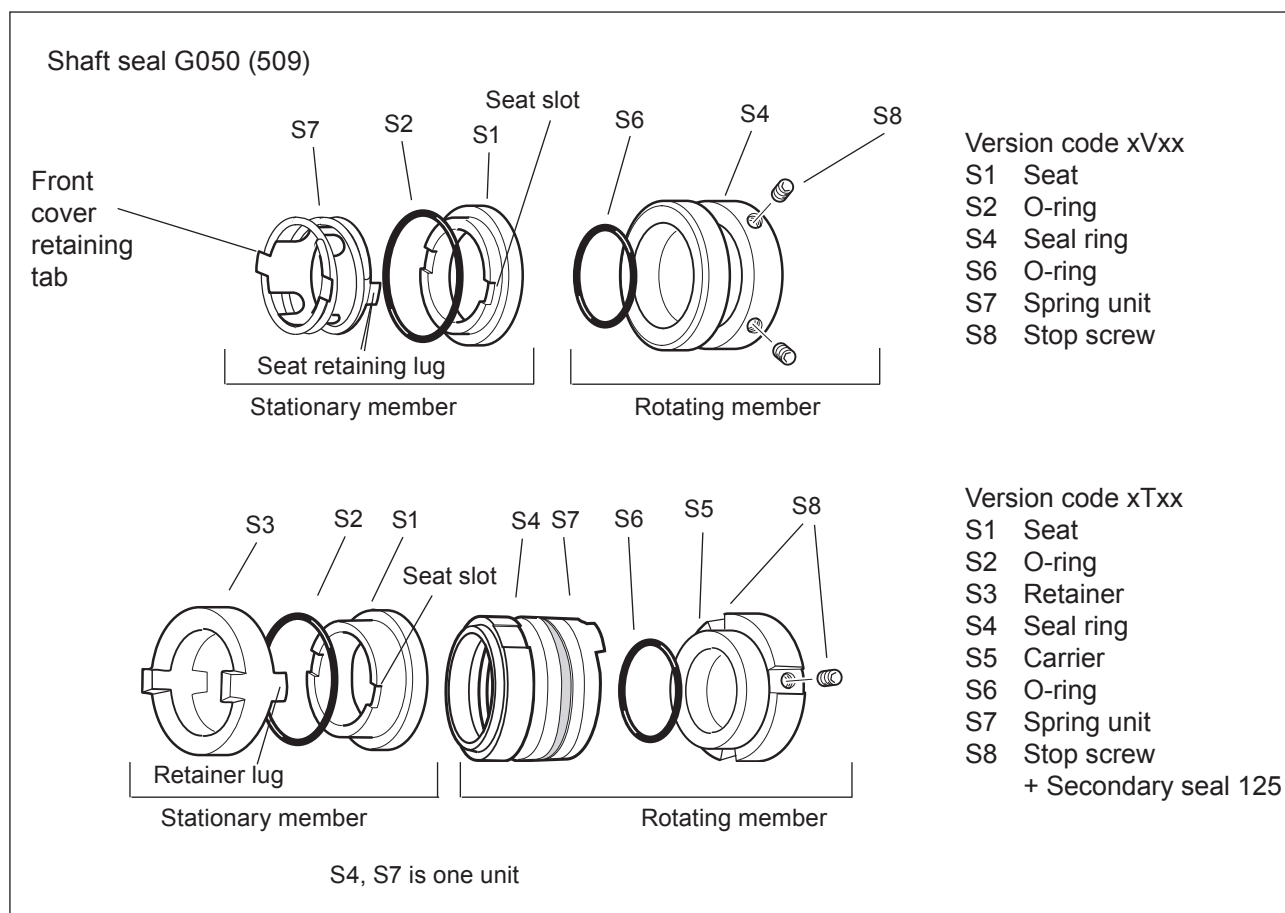

Fig. 4
- Fit the spring unit S7 in place. Note the position for the Seat slots and lugs. (See fig 4.)
- Lubricate the O-ring 501 and put it on the seat S1. Fit the seat S1 on top of the spring unit. Watch position of the Seat slots and lugs. (See fig 4.)
- Fit the retainer S3 in place. Note the position for the retainer lugs and cover slots. (See fig 4.)
- Lubricate the O-ring S2 and put it on the seat S1. Fit the seat S1 on top of the retainer. Watch the position of the seat slots and lugs. (See fig 4.)